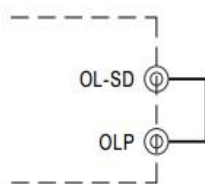

Fig.1 Plug in the short-circuit connector of CON3
① Plug in the short-circuit connector of CON3, as shown in Fig.1. The output constant-current protection mode will shut down after 5S with constant current limit delay, and then restart and restore.